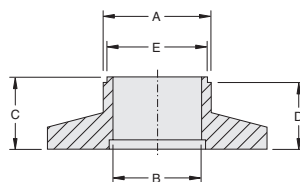
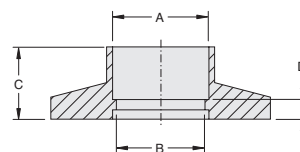

Fig. 1
Fig. 2
* See Fig. 1; all other Part Numbers see Fig. 2.